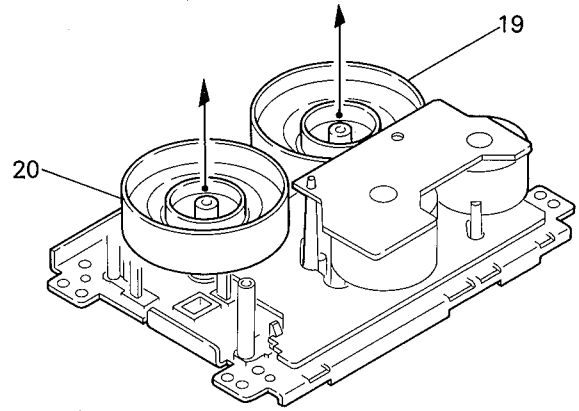

Fig. 5-46
6. Disengage the belt (38) and pull out the flywheels (19, 20). (Fig. 5-46, 47)